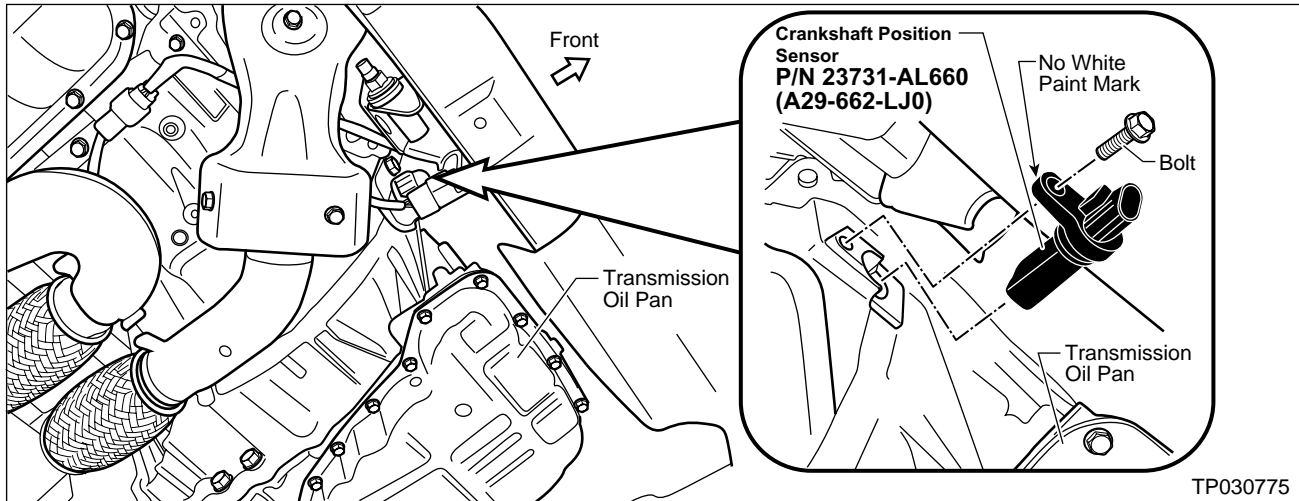

Figure 9
2. Locate the **Crankshaft Position Sensor** (see Figure 9).